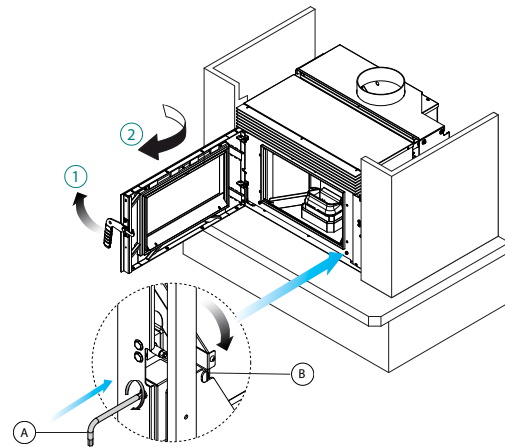

fig. 6.1.13
- 13) Open the door, insert Allen key (A) into the limiter's socket; turn the closing lever to the right, to position (B), in order to lock the rails into place (fig. 6.1.13)